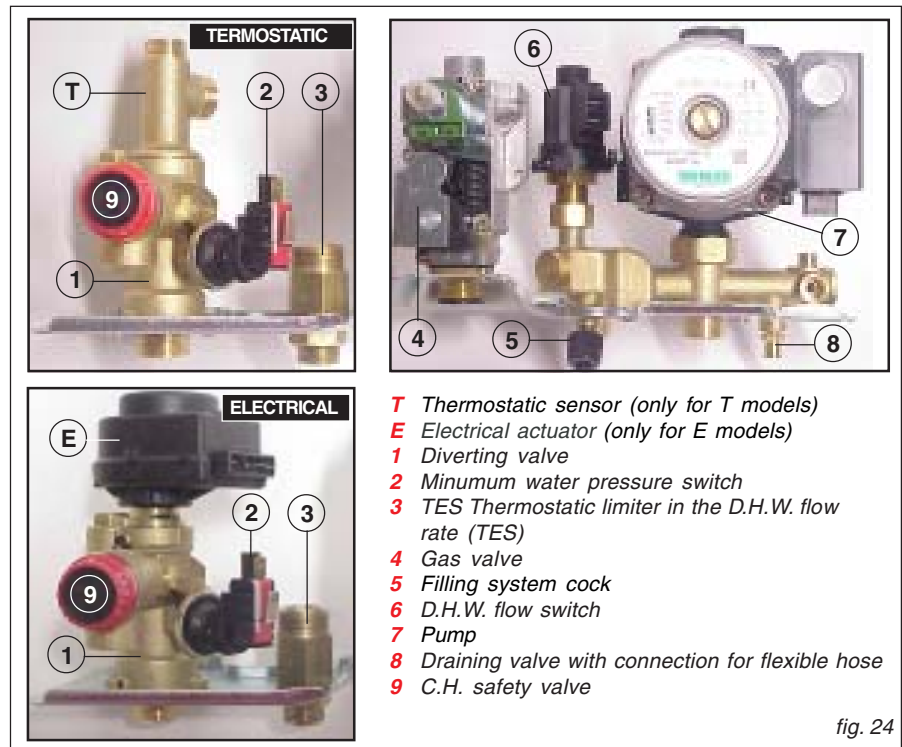

fig. 24
- position the jumper on the modulation PCB in the panel board as shown in fig. 24